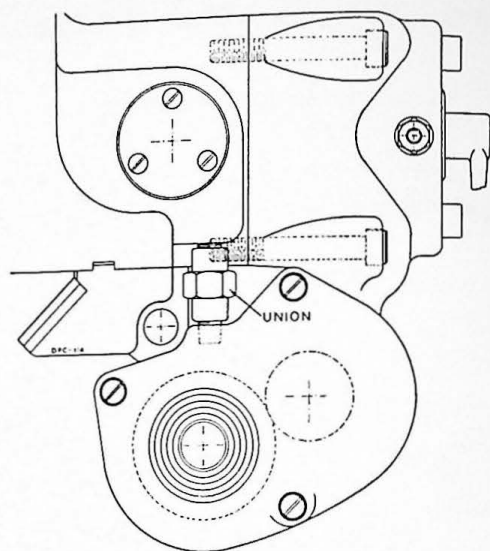

FIGURE 18
1. Loosen brass union between cover on change gear bracket and the knee proper. See Figure 18.